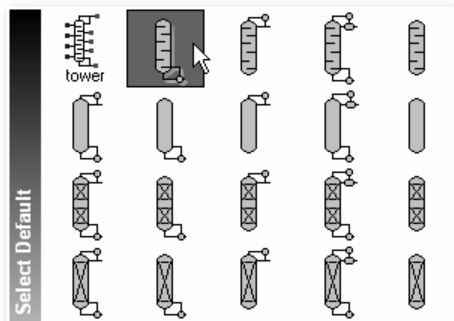

Figure 11-06: Selecting the appropriate Tower UnitOp icon
- For the condensate stabilizer, use a distillation column. Multiple distillation UnitOps are available, but for now, assume that the module you want to use is the rigorous distillation model called *Tower*. You'll need a Tower icon with trays and a reboiler but no condenser; this is different from the default Tower UnitOp icon. Click the lower right corner of the Tower icon's box to view the sub-palette, then select the icon shown in Figure 11-06.